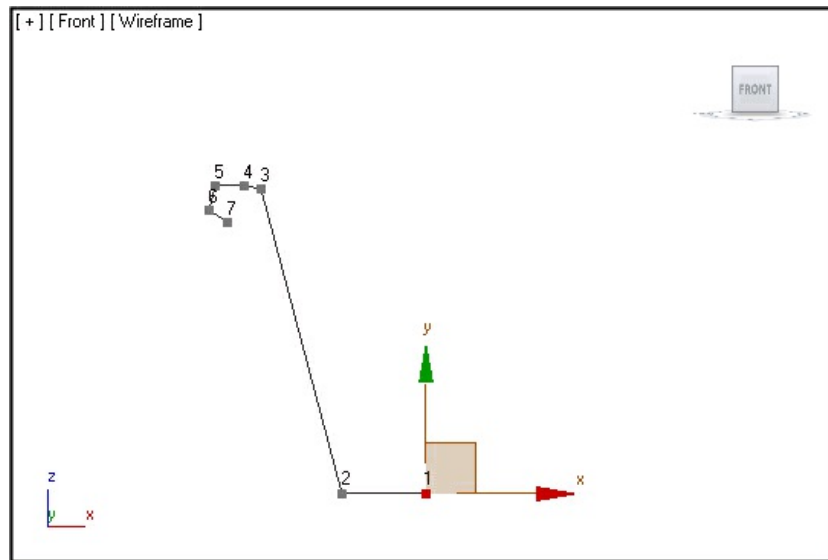

Figure 6-75 The first vertex of the line spline selected in the Front viewport
1. Select the first vertex of the spline in the Front viewport, as shown in Figure 6-75.